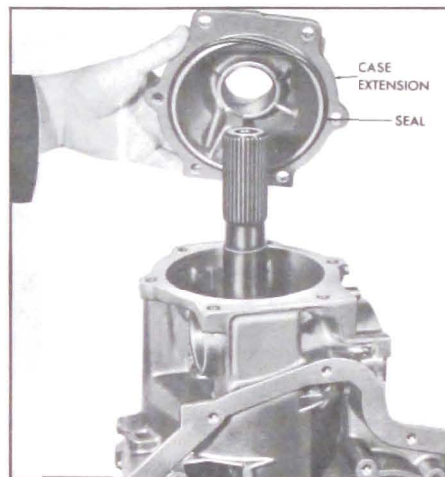

Figure 5-535
3. Remove the extension housing and extension housing to case seal. See Figure 5-535.